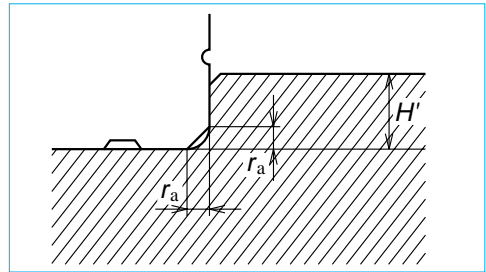

Fig. II-9-10 Shoulder for the rail datum face
(1) Shoulder height of the mounting face of the machine base and corner radius r
- Fig. II-9-10, II-9-11, and Table II-9-9 show shoulder height of the mounting face of the machine base and the size of corner r . These figures are relevant when the linear guide is pressed to the shoulder of the bed or table (the raised section from where the mounting face begins), and horizontally secured to it.
(2) Tightening torque of the bolt